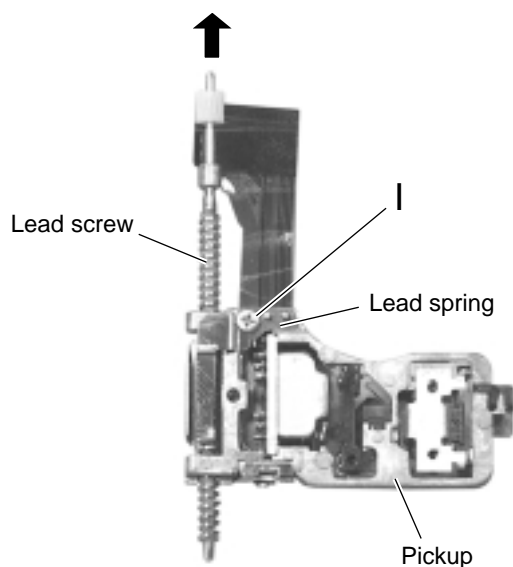

Fig.10
**■ Removing the pickup (See Fig.10 and 11)**